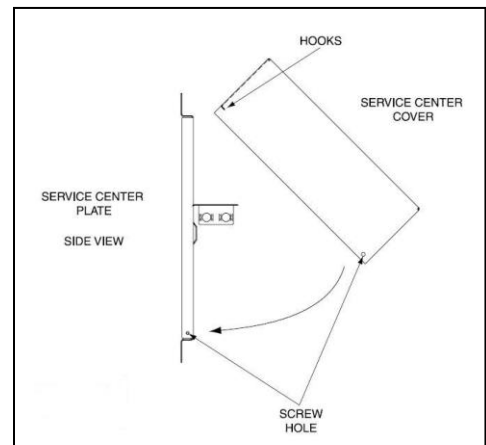

Figure 4
F. Cover Installation (optional) see Figure 4